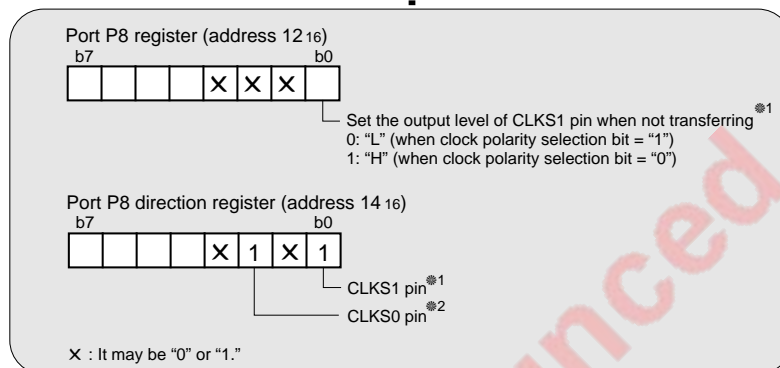

**Fig. 8.3.3 Initial setting example for related registers when transmitting (1)**
Figures 8.3.3 and 8.3.4 show initial setting examples for related registers when transmitting. Transmission is started when all of the following conditions (① to ③) are satisfied. When an external clock is selected, satisfy conditions ① to ③ with the following preconditions satisfied.